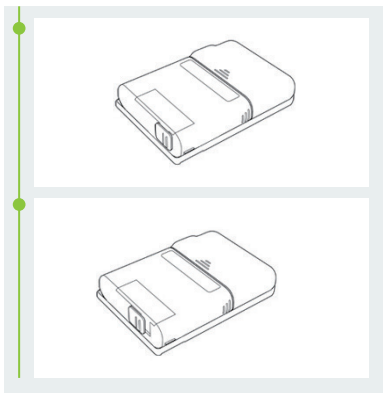

Figure 83
- 4 Connect the pump to the infusion set as shown in Figure 83 and press Continue.